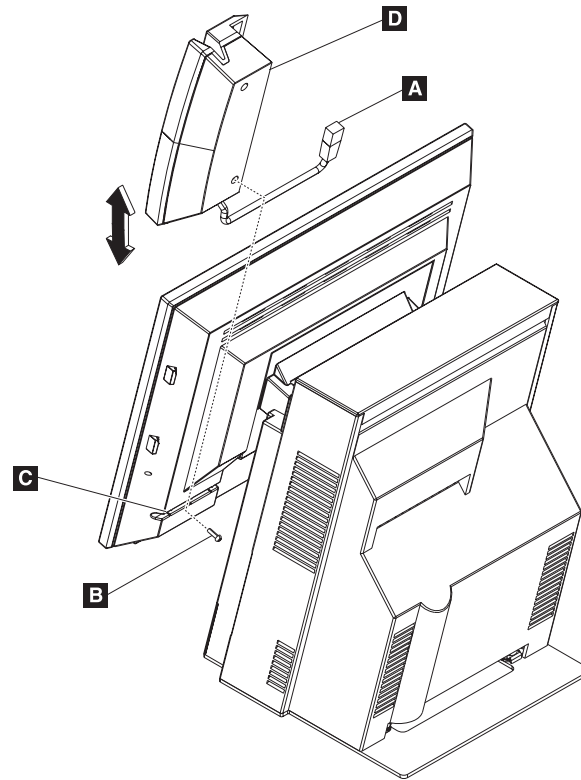

Figure 6. Installing the magnetic stripe reader (MSR)
**Note:** Before installing the three-track MSR, set the slide switch **D** in Figure 6 on page 9 that is located on the MSR to the correct setting for either RS-232 or keyboard interface. See Figure 6 on page 9.
3. Install the screw provided with the MSR, as shown in Figure 6 on page 9. Use care not to overtighten the screw.